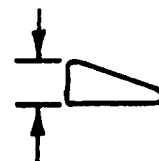

Figure 19
- (5) **UNDERDRIVE/OVERDRIVE REACTION PLATES** - The underdrive/overdrive Reaction Plates have always been available in 4 different thicknesses to adjust the Underdrive Clutch to proper specifications. For 1990, each plate was reduced in thickness by .040" to accommodate the new tapered snap ring location. Refer to the chart in Figure 18 for both 1990 and up selective reaction plate sizes with part numbers. The actual dimension change that took place can be seen by measuring just the lug thickness of the reaction plate. The 1989 reaction plate had a lug thickness of .196". When the tapered snap ring groove was moved down .040" in the Input Clutch Retainer to accommodate the extra lined and steel plate in the Overdrive Clutch pack, the lug on the reaction plate was also be reduced by .040" making the lug thickness .156" (See Figure 19). Then in 1993, the reaction plate had a redesign where a relief cut was placed across the top of the lug making the lug thickness .141". This was done to accommodate a change made to the tapered snap ring. Refer to the tapered snap ring changes on the following page and Figure 19. The selective drive/overdrive reaction plate chart in figure 18 for 1990 and up, provide part numbers for this new style reaction plate to be used only in 4 overdrive clutch drums. An updated tapered snap ring is included with each selective plate.
(6)UNDERDRIVE/OVERDRIVE TAPERED SNAP RING - The thickness of this snap ring was originally .070" in thickness and could be easily recognizable as the snap ring would be Blue in color (See Figure 19). When the extra lined and steel plate was added to the overdrive clutch pack, the thickness of this snap ring was reduced by .010" because the friction that laid along side of this snap ring was also reduced in thickness as explained on the previous page. The 1990 snap ring for the 4 overdrive clutch pack became .060" in thickness and could be easily identified with either Green or White paint. In 1993, this tapered snap ring went from .060" in thickness to .075" to prevent excessive snap ring breakage. The color black was originally used to identify this .075" tapered snap ring but was soon changed to white due to a material change in the snap ring. This snap ring has also been known to be either Green or Blue in color. Caution should be used when selecting an underdrive/overdrive tapered snap ring as color identification may be confusing and none of these tapered snap rings can be interchanged. The .070" tapered snap ring is only used in the 3 overdrive clutch drum with a reaction plate that has a lug thickness of .196". The .060" tapered snap ring was used in 4 overdrive clutch drums with a reaction plate that has a lug thickness of .156". The .075" thick tapered snap ring is an update to the 4 overdrive clutch drums ONLY and should ONLY be used with reaction plates that have a lug thickness of .141" (See Figure 19).